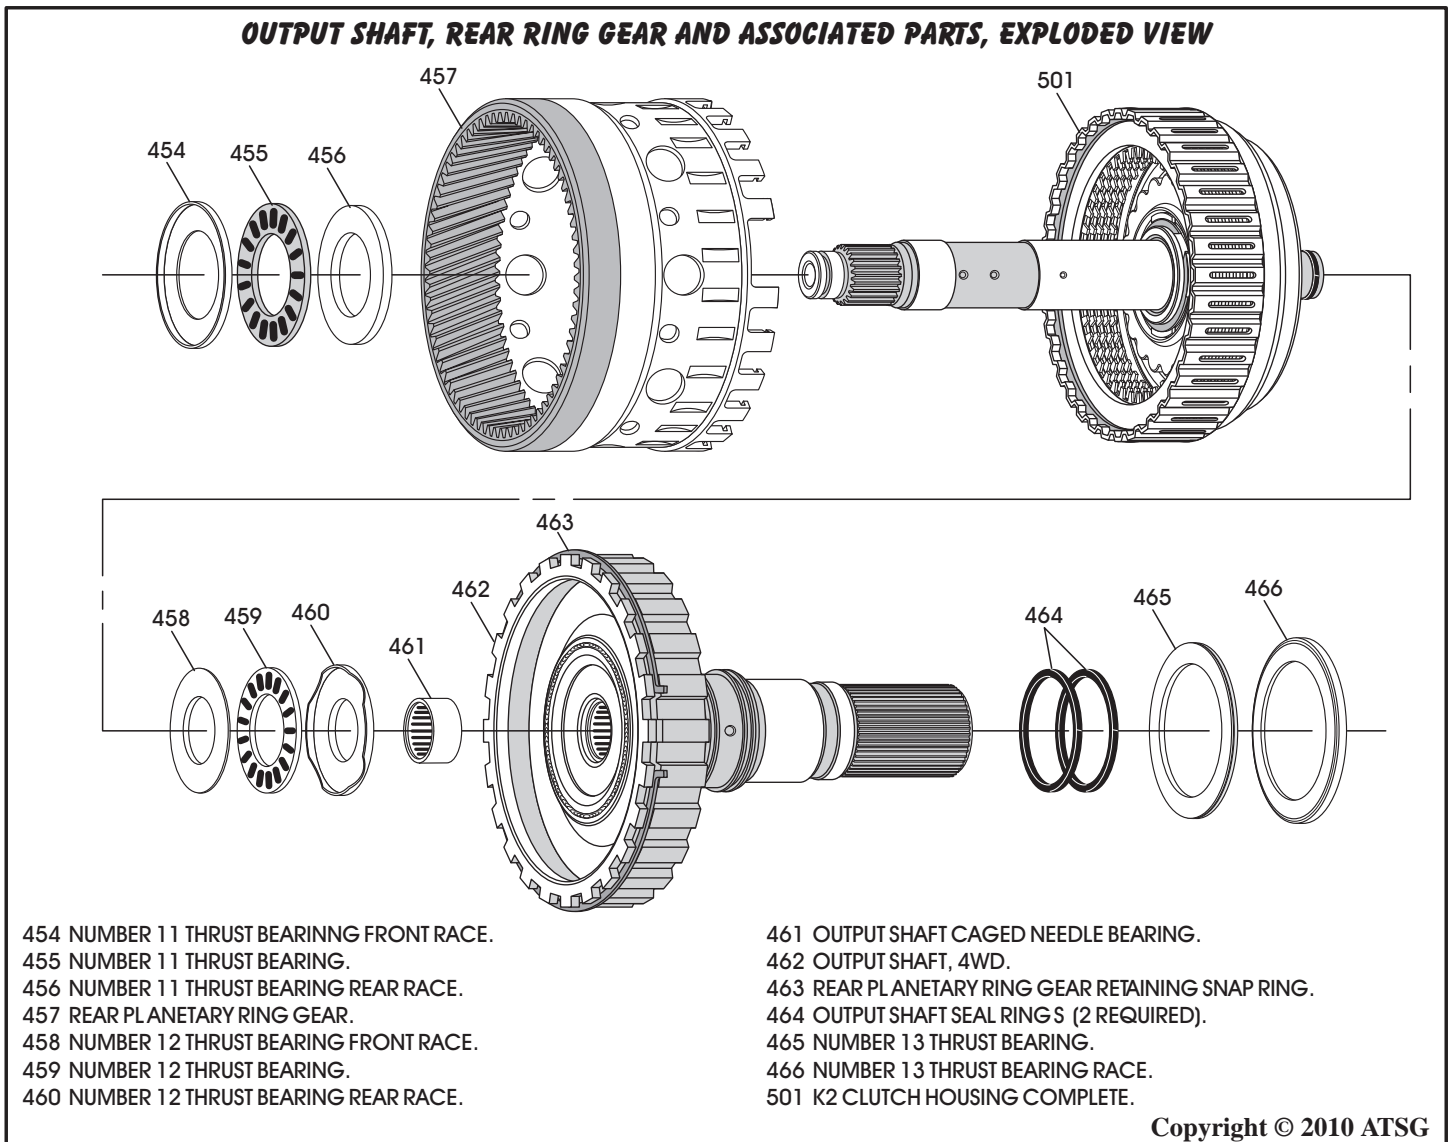

Figure 99
Exploded view of all of these components is shown in Figure 99 below.
1. Disassemble the output shaft/ring gear assembly using Figure 99 as a guide.